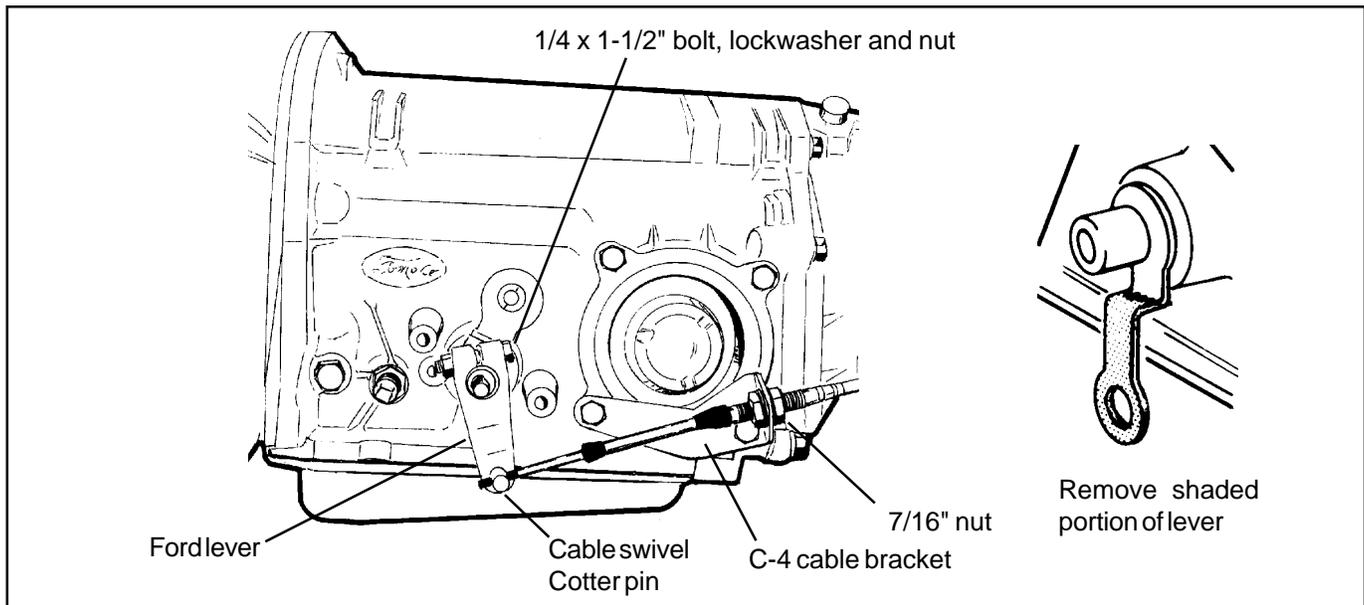

Figure 4
STEP 14. Install the **B&M** selector lever (See Figure 4 or 5). Note: The **B&M** lever must point downward for proper operation. If the stock shift lever on your transmission points down, you will have to remove the lower part of the stock arm by cutting it off to clear the **B&M** lever (See Figure 4). Install the **B&M** selector lever onto the shift shaft of the transmission. Align the selector lever so when it points straight down it travels equal arcs in
STEP 15. Cable bracket installation: **C-4, C-5:** Remove the two lower bolts from the rear servo cover. Install the cable bracket in position (See Figure 4). Install the two servo cover bolts as removed and tighten to 12-13 lb-ft. Do not overtighten as this can distort the servo cover.